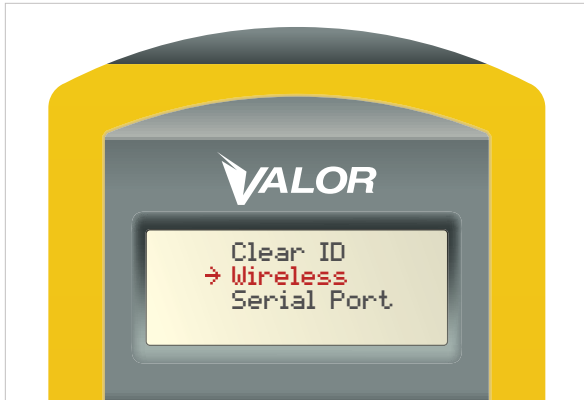

Figure 19
1. The cursor arrow should be next to the “Wireless” option. (Figure 19)